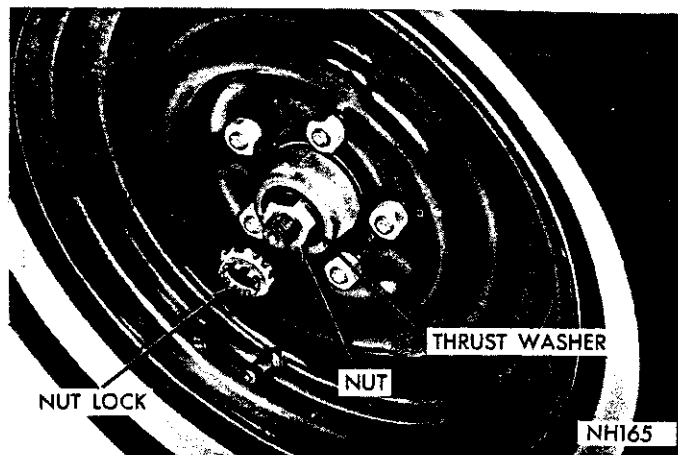

Fig. 52—Front Wheel Bearing Adjustment
(2) Tighten wheel bearing adjusting nut (Fig. 52) to 70-inch pounds on Dart models and 90 inch-pounds on Challenger models, while rotating wheel.
(3) Position nut lock on adjusting nut so one pair of cotter pin slots align with hole in spindle.
(4) Back off adjusting nut and nut lock to the next slot and install cotter pin.
(5) Install wheel covers.